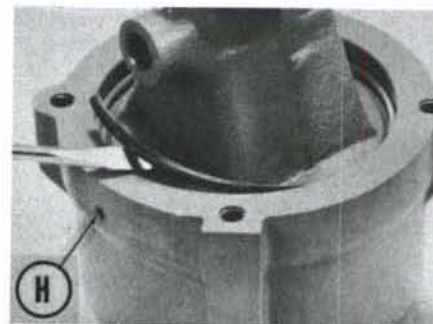
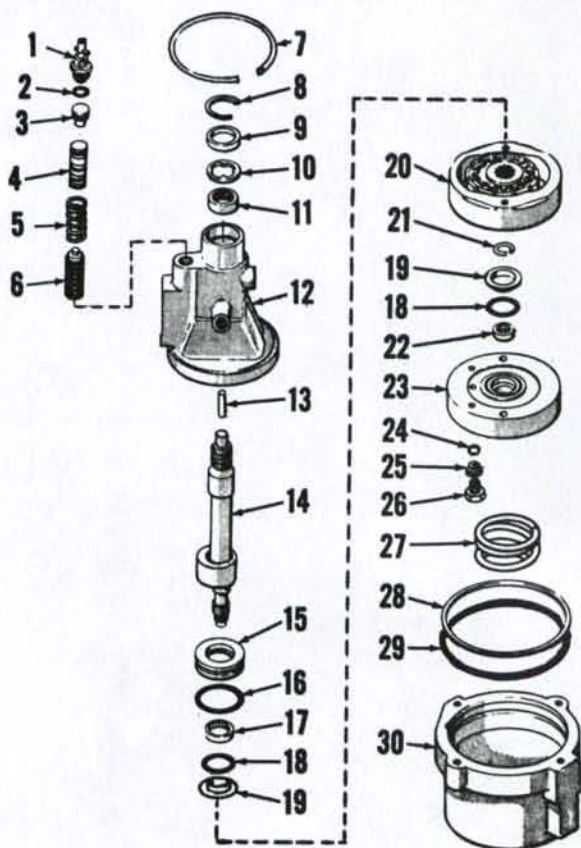

Fig. 13—To remove cover retaining snap ring, drive pin punch through hole (H) in cover to disengage snap ring from groove.
Fig. 10—Exploded view of the Saginaw Hydramotor steering unit. Also refer to Figs. 11 to 27 for photos showing disassembly and reassembly techniques.
17. R&R COVER RETAINING SNAP RING (Hydramotor Models). To remove snap ring (7—Fig. 10) used to retain cover (30) to housing (12) proceed as follows:
With unit removed from tractor as outlined in paragraph 14, check to see that end gap of snap ring is near hole in cover as shown in Fig. 13; if not, bump snap ring into this position with hammer and punch. Insert a pin punch into hole and drive punch inward to dislodge snap ring from groove. Hold punch under snap ring and pry ring from cover with screwdriver. Usually, the coil spring (27—Fig. 10) will push housing from cover; if not, bump cover loose by tapping around edge with mallet.
CAUTION: Do not push against end of shaft (14—Fig. 10).